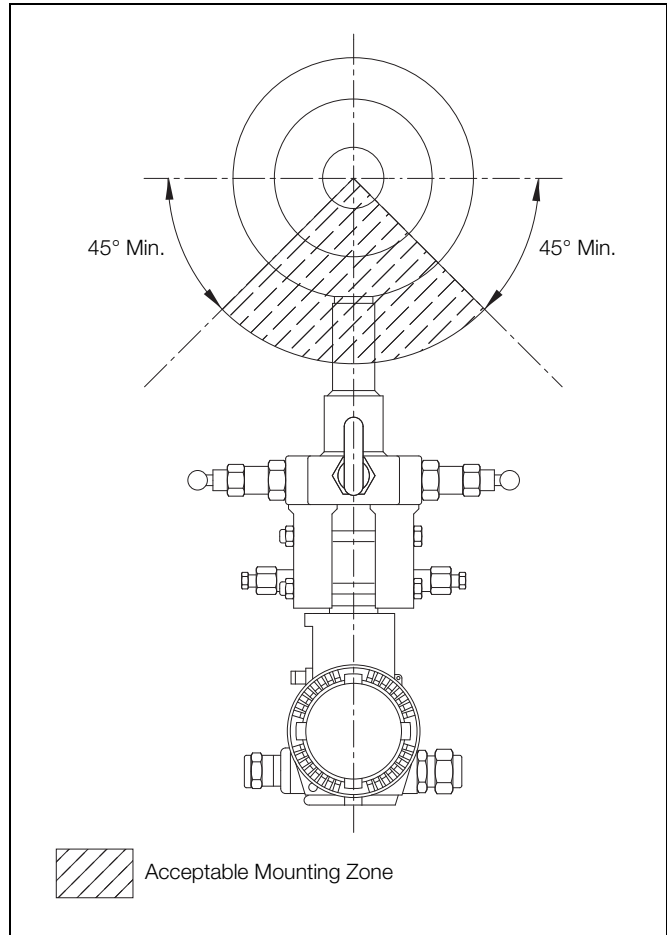

Fig. 2.4 Horizontal Pipe Mounting – Liquids & Steam
To ensure that gases vent back into the pipe, mount the meter **below** the pipe, at least 45 degrees below the horizontal – see Fig. 2.4.
- for horizontal pipe mounting – liquid, refer to Fig. 2.4.
1. Referring to Fig. 2.4, install OriMaster M as described in Section 2.3.